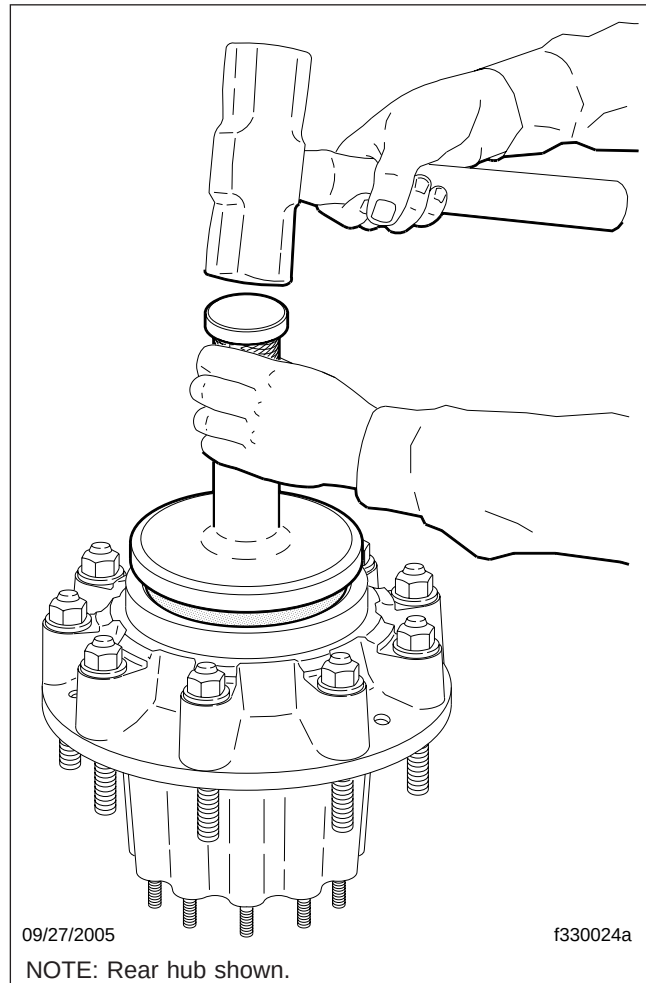

Fig. 4, Striking the Tool
12. Hold the tool handle firmly, and strike it until the seal bottoms out. See Fig. 4. Hold the tool firmly to avoid bounce or unseating of the seal from the adapter.